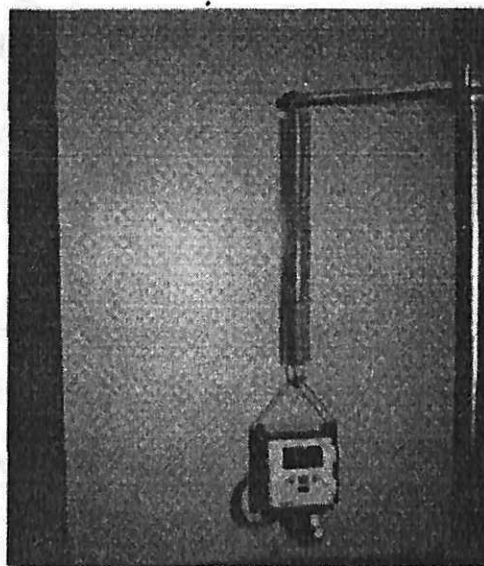

Figure 3.5.4: NXT set-up
1. Build a model of the spring-mass system using NXT, ultrasonic sensor, spring, and stand. See Figures 3.5.4 and 3.5.5